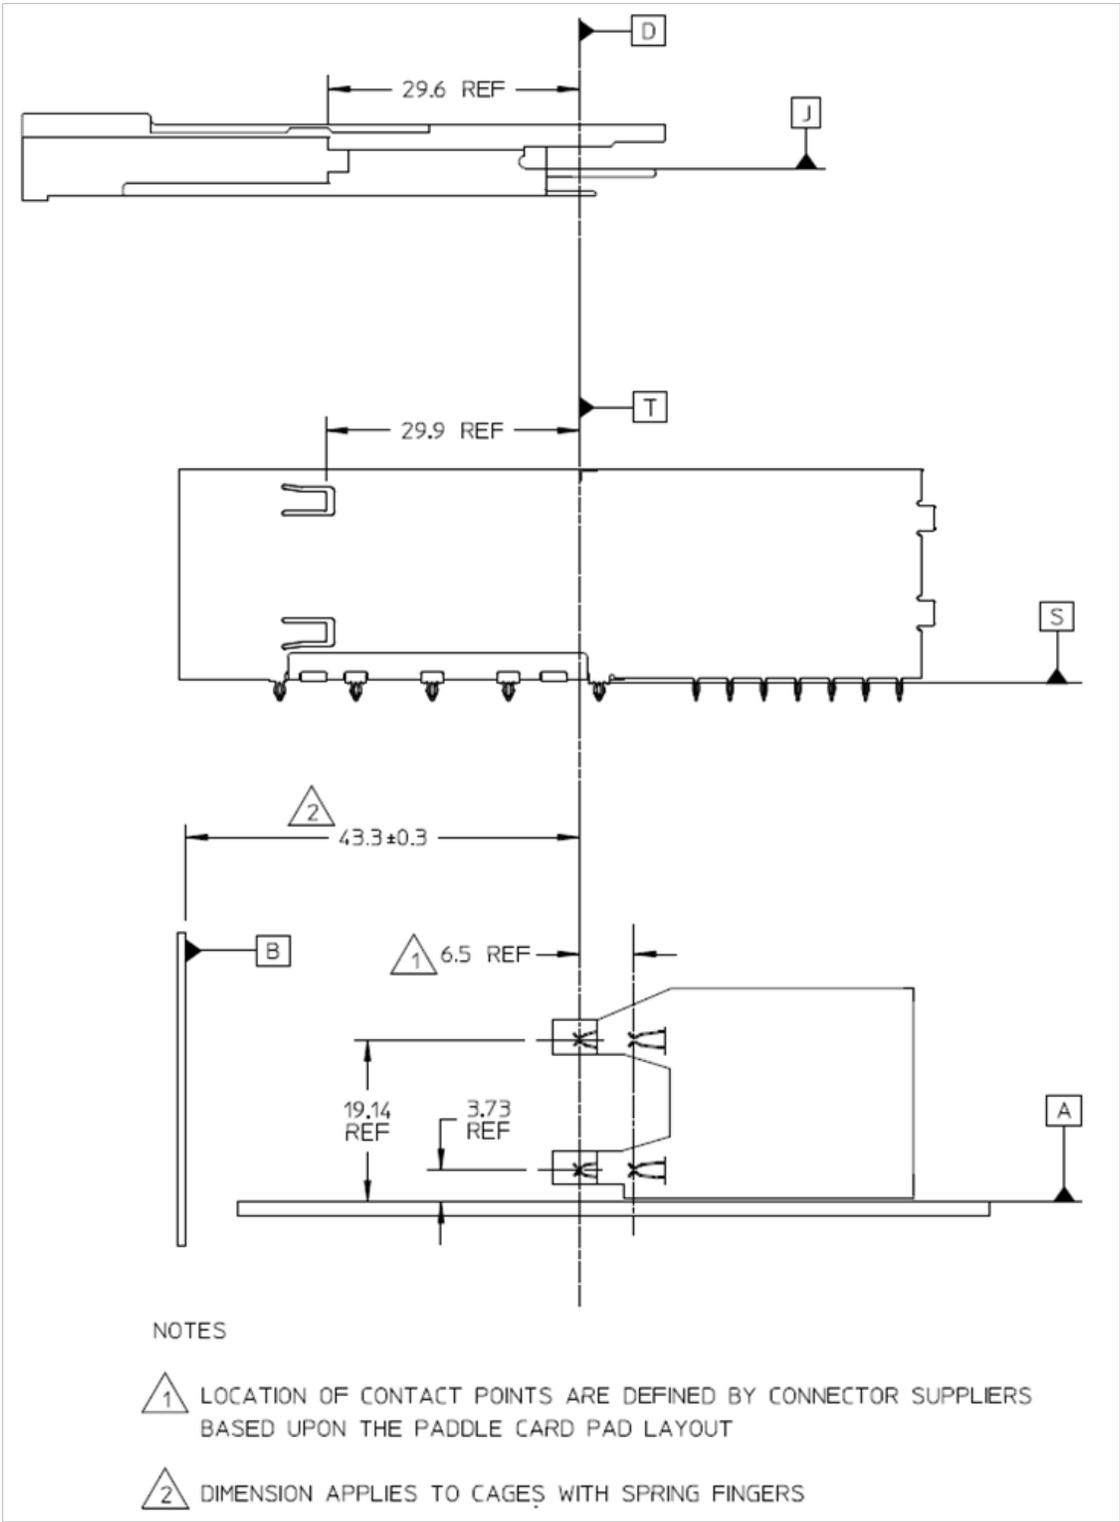

Figure 11: 2X1 stacked connector/cage datum descriptions
*Datums D, N and T are aligned when assembled (see Figure 11 and Figure 12)